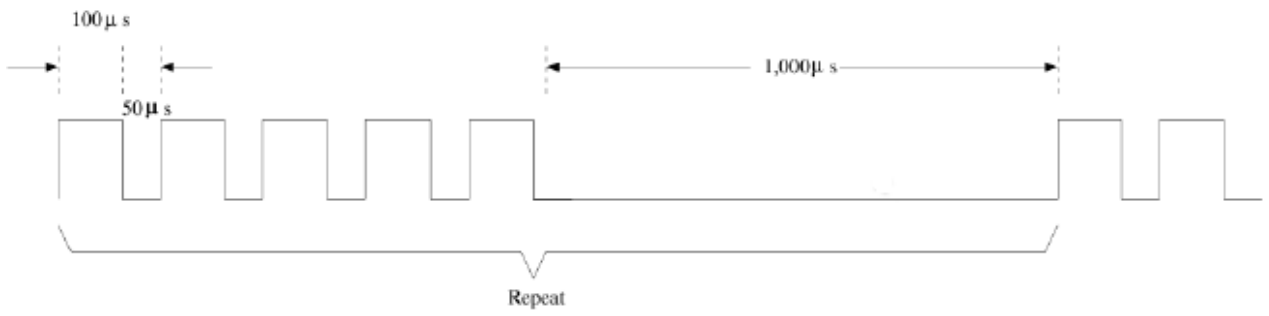

Figure 1: Waveform.
5. Write an output compare ISR for PT4 to generate the waveform shown in Figure 1. Use a logic probe to verify that it works.